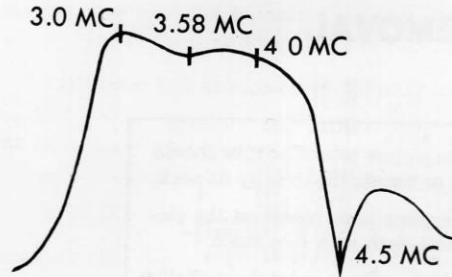

Figure 16—Overall Color Amplifier Response Curve, Taken at Test Point U.
8. Adjust L25 (1st Color Amplifier plate coil) to approximately 3.1 mc to approach response curve shown in Figure 16.